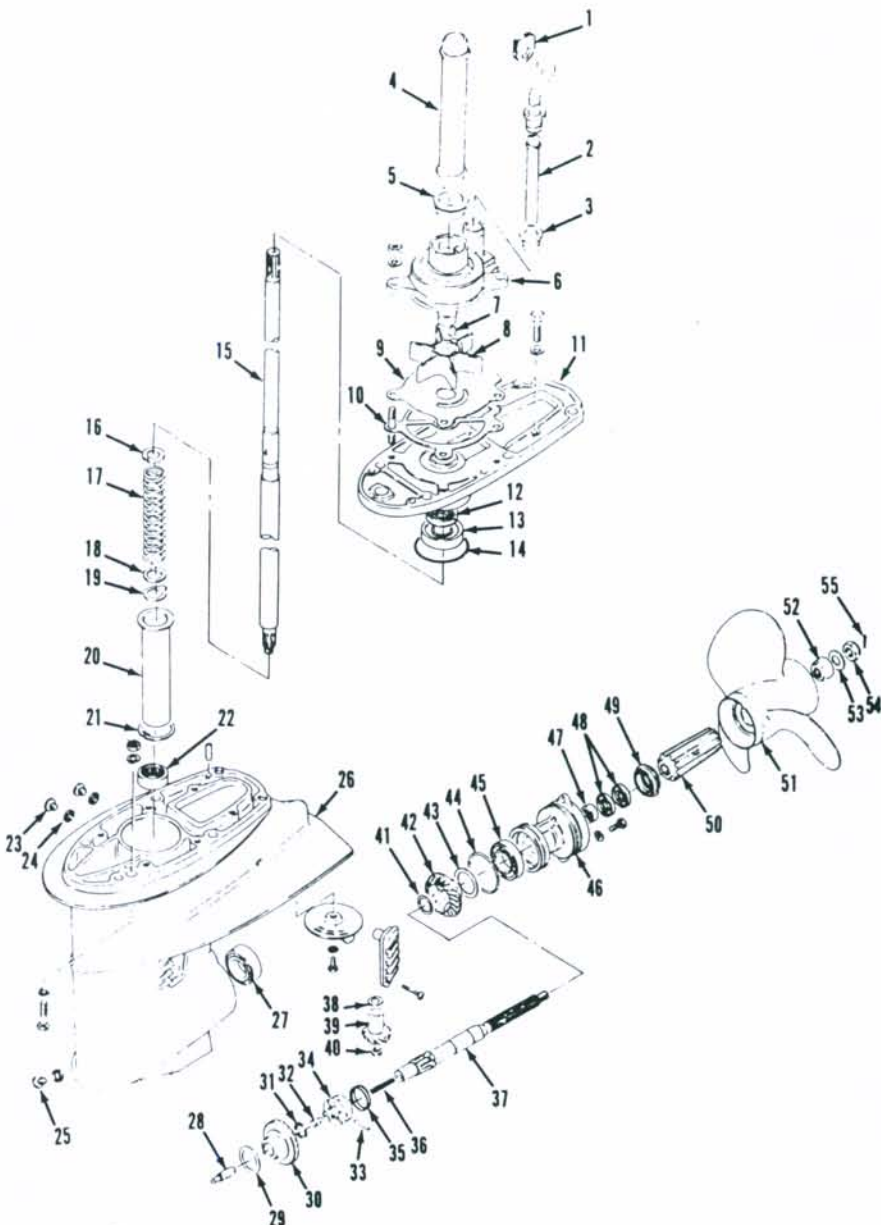
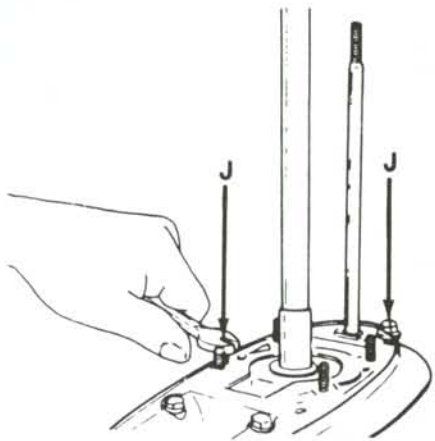
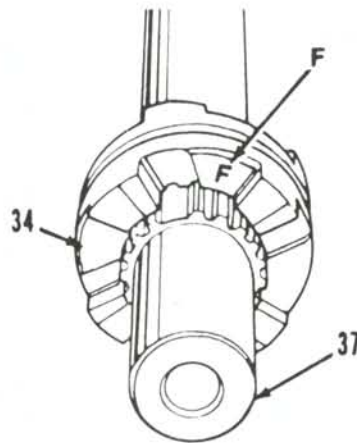
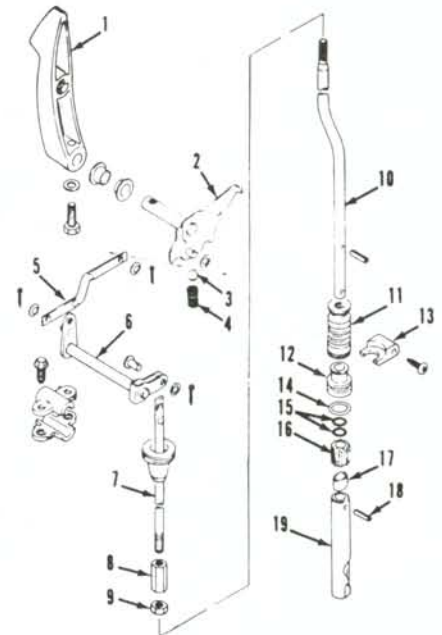

Fig. SZ11-19—Exploded view of lower unit gearcase assembly.
Fig. SZ11-20—Use two 6 mm jackscrews positioned as shown to withdraw upper bearing housing with drive shaft components.
Fig. SZ11-21—Install dog clutch (34) on propeller shaft (37) so "F" mark is toward forward gear.
Fig. SZ11-22—Exploded view of shift control linkage components.
**PROPELLER AND RUBBER DAMPER.** A ratchet hub (50-Fig. SZ11-19) is used to provide shock protection for lower unit gears and shafts. Three-bladed propellers are used. Standard propeller has a 260.3 mm (10¼ in.) diameter and a 304.8 mm (12 in.)
**R&R AND OVERHAUL.** Refer to Fig. SZ11-19 for exploded view of lower unit gearcase assembly. During disassembly, note the location of all shims and washers to aid in reassembly. To remove gearcase, first remove drain plug (25) and level (vent) plug (23) and drain gear lubricant. Loosen shift rod locknut (9—Fig. SZ11-22) and turn adjustment nut (8) until upper and lower shift rods are separated. Remove cotter pin (55—Fig. SZ11-19), nut (54), washer (53), spacer (52) and withdraw propeller (53) with ratchet hub (50). Withdraw spacer (49). Remove six lower unit cap screws. Withdraw lower unit assembly from drive shaft housing.
ing, then use two 6mm cap screws positioned as shown in Fig. SZ11-20 and tighten screws in equal increments to withdraw upper bearing housing with drive shaft components. Remove forward gear (30—Fig. SZ11-19) shim (29) and bearing (27). Remove screw from side of gearcase securing guide holder (13—Fig. SZ11-22) and withdraw lower shift linkage components.
Reassemble lower unit by reversing disassembly procedure while noting the following: Install dog clutch (34—Fig. SZ11-21) on propeller shaft (37) so "F" marked side is toward forward gear. Tighten pinion nut (40—Fig. SZ11-19) to 18-22 N·m (13-16 ft.-lbs.). Tighten water pump housing (6) cap screws to 6-10 N·m (4-7 ft.-lbs.). Tighten bearing carrier (46) cap screws to 6-10 N·m (4-7 ft.-lbs.). Tighten propeller retaining nut to 27-30 N·m (19-21 ft.-lbs.). Assembled backlash between pinion gear (39) and forward gear (30) should be 0.1-0.2 mm (0.004-0.008 in.). Adjust thickness of shim (38) or shim (29) until recommended backlash is obtained. Recheck mesh
Adjust shift rod adjustment nut (8—Fig. SZ11-22) until the proper engagement of "Forward," "Neutral" and "Reverse" is obtained. Tighten locknut (9) to secure adjustment nut (8) position. Fill gearcase with approximately 230 mL (7.77 ozs.) of SAE 90 hypoid outboard gear oil.